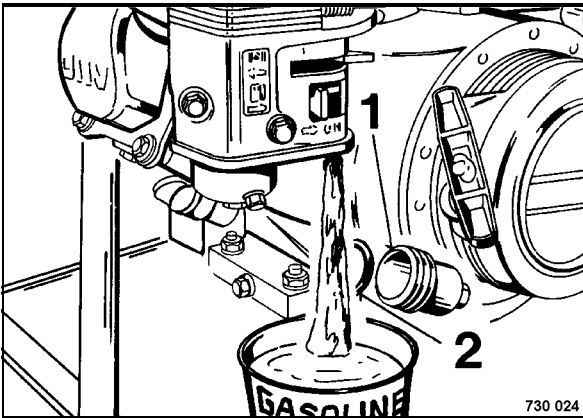

Fig. 49
- Unscrew fuel sludge filter 1 (Fig. 49) and drain off gasoline.
- Check seal ring (2) for cracks, replace the seal if damaged.
- Screw the fuel sludge filter with seal ring (2) tightly in.